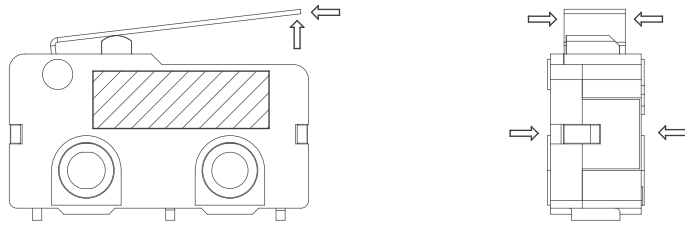

Figure-1
2. To ensure the best performance of the switch, when handling/installing the switch, please do not apply uneven pressure to the direction indicated by the arrow in (Figure -1). Any uneven pressure or pressure direction other than the operating direction might be harmful or damage the switch performance.